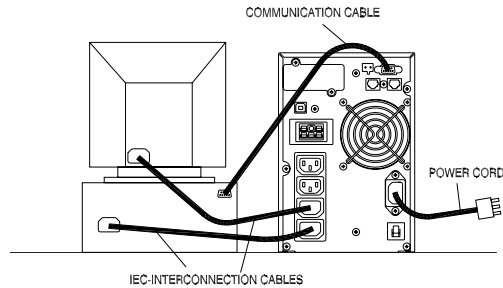

Fig. 3 Example of Installation
- After charging, connect the loads to the UPS (see the example in fig 3).